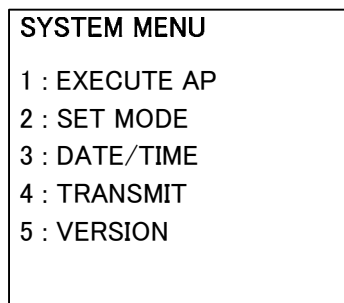

Fig. 2.12
4. As soon as the menu no. 4 is selected in Fig. 2.12, the following screen in Fig. 2.13 will appear.